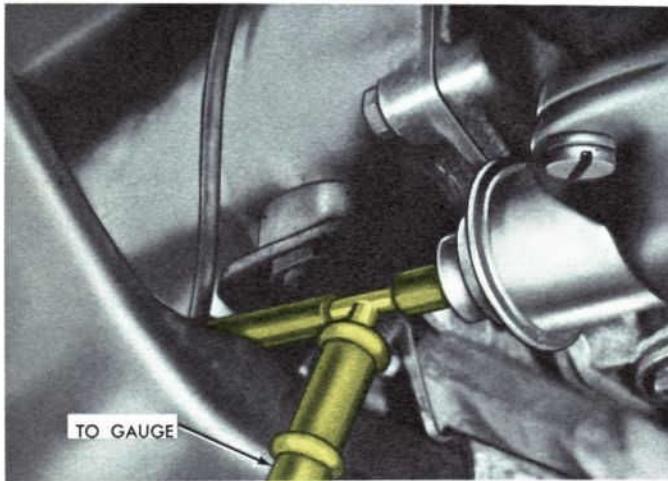

Fig. 82—Vacuum Gauge Connection
- **Vacuum Gauge**—Tee into diaphragm vacuum line (Fig. 82).